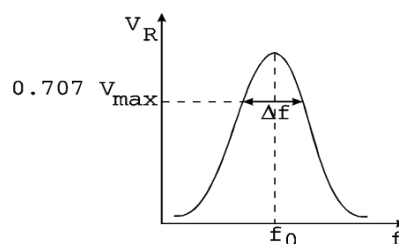

Figure 2
From Figure 2 we can see that
If we measure voltage across the resistor, depending on frequency, we will obtain a resonance curve of the circuit as shown in Figure 2. A resonance curve can be characterized by the resonance width Δf , the frequency difference between the two points on the curve where the power is half its maximum value or voltage is $V_{max}/\sqrt{2} = 0.707 V_{max}$
5. Plot a graph between Frequency v/s Current as shown in fig. 2.